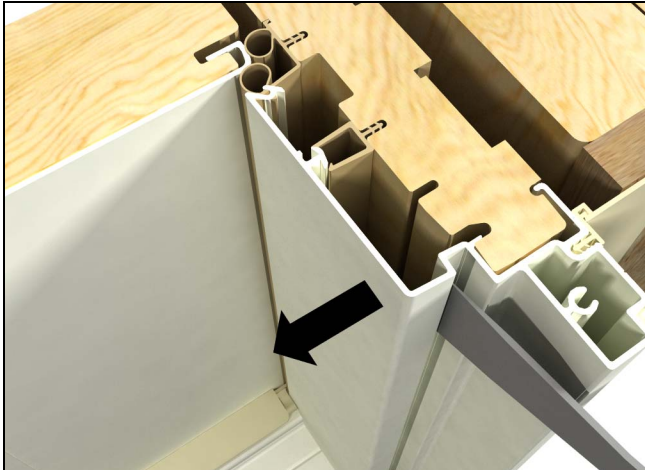

Figure 4
1. Starting at the top of the part stop insert a stiff putty knife or pry bar between the stop and frame. Gently press inward and pry the stop out of the exterior kerf. See figure 4.